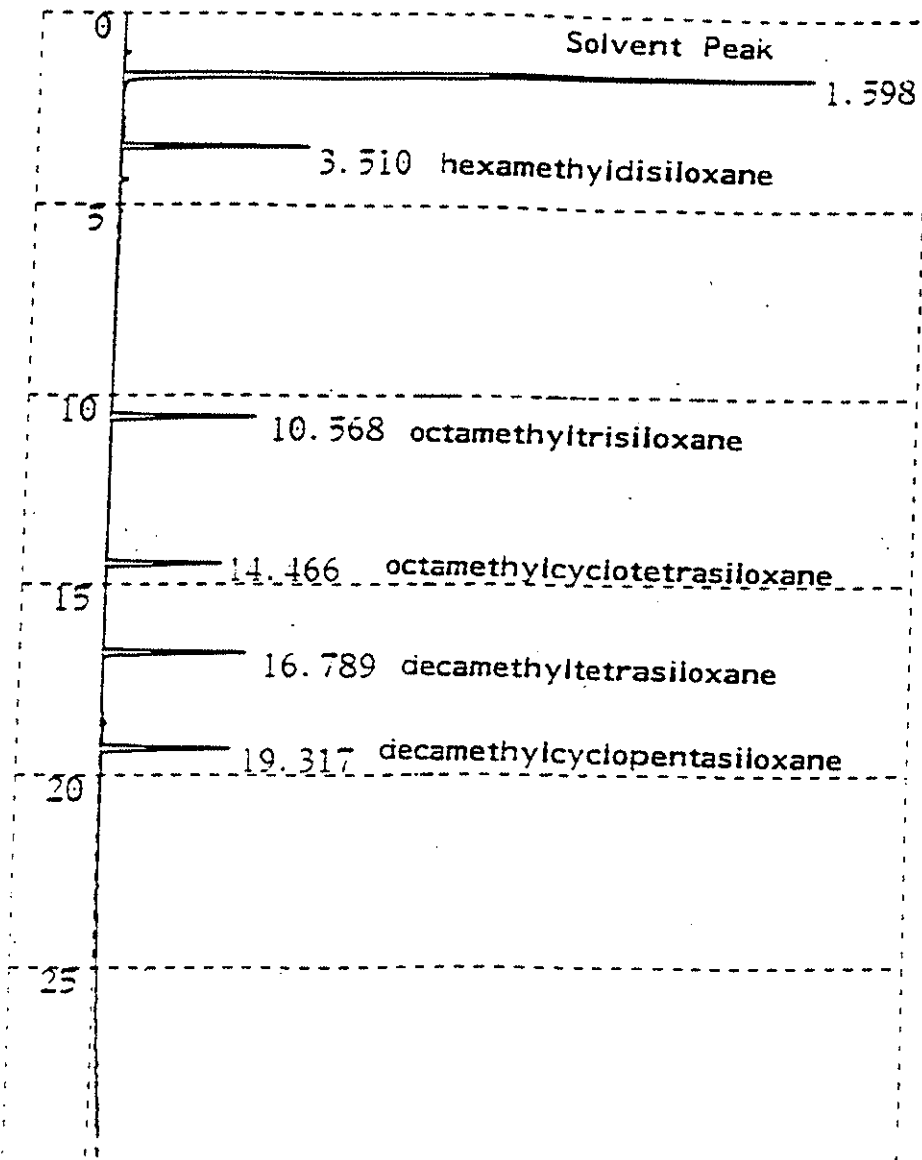

FIGURE 1
**4.3.3.3** Using a 10  $\mu$ l syringe, inject separately 1  $\mu$ l of the mixture (**4.3.3.2**) into the gas chromatograph. Integrate and record the peak areas of n-Octane and the VMS. Retain the chromatogram. The order of elution is CS2, n-Octane and VMS. (See **Figure 1**).